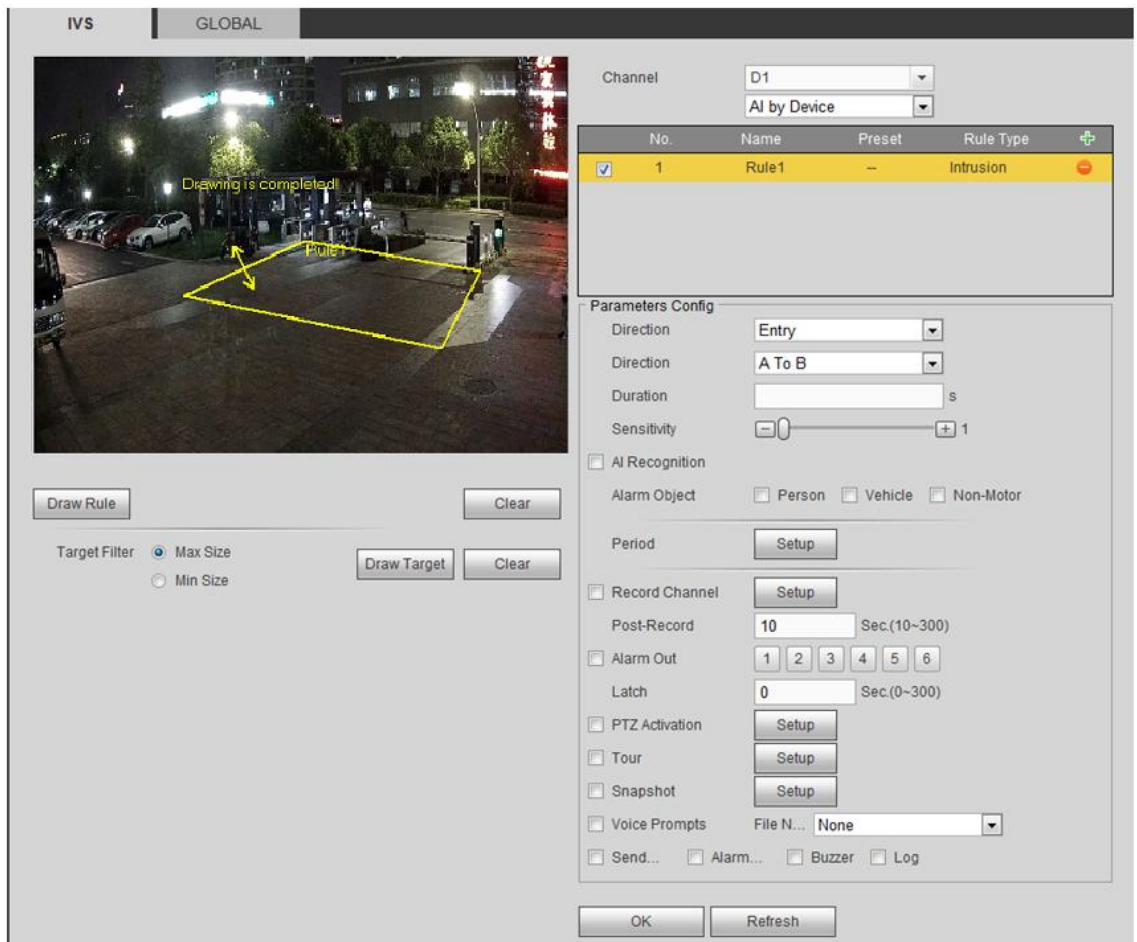

Figure 5-71
- When you select AI by device, the system displays as Figure 5-71.